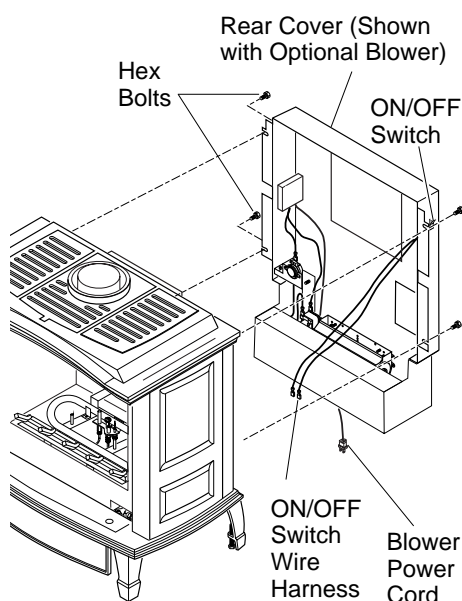

Figure 21 - Installing Rear Cover (Shown with Optional Blower Accessory)
3. Using bolts provided, attach rear cover to back of stove body. See Figure 21.